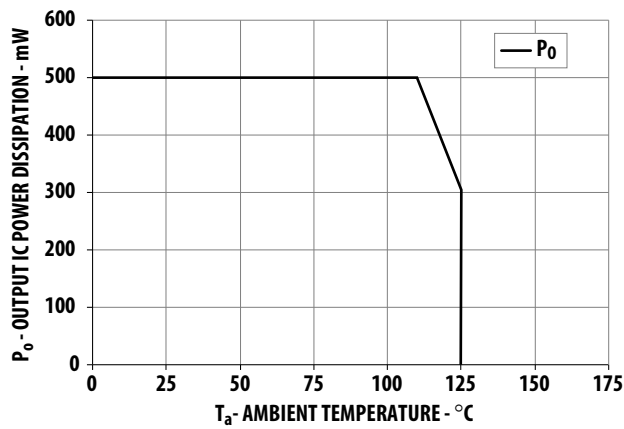

Figure 2. Output IC Power Dissipation Derating Chart
- Derate linearly above 110  $^{\circ}\text{C}$  free-air temperature at a rate of 13 mW/ $^{\circ}\text{C}$ . Refer to Figure 2 from Output IC Power Dissipation Derating Chart.